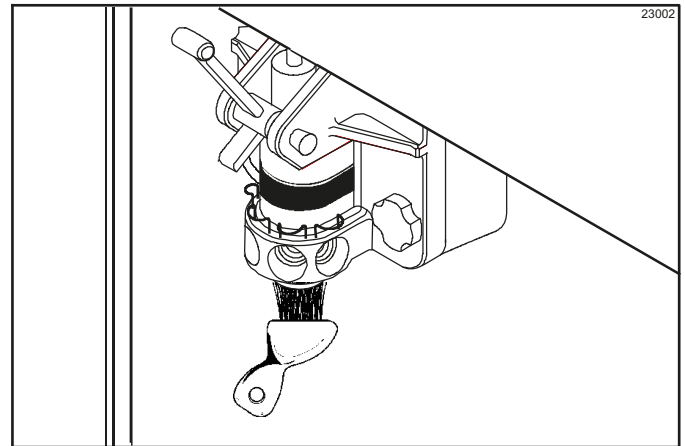

Figure 6-45
9. Return to the machine with a small amount of cleaning/sanitizing solution. With a pail below the door spout, dip the door-spout brush into the cleaning solution. Brush-clean the syrup ports in the freezer door, door spout, bottom of the driven spinner, spinner blade, and syrup line fittings. (See Figure 6-45.)